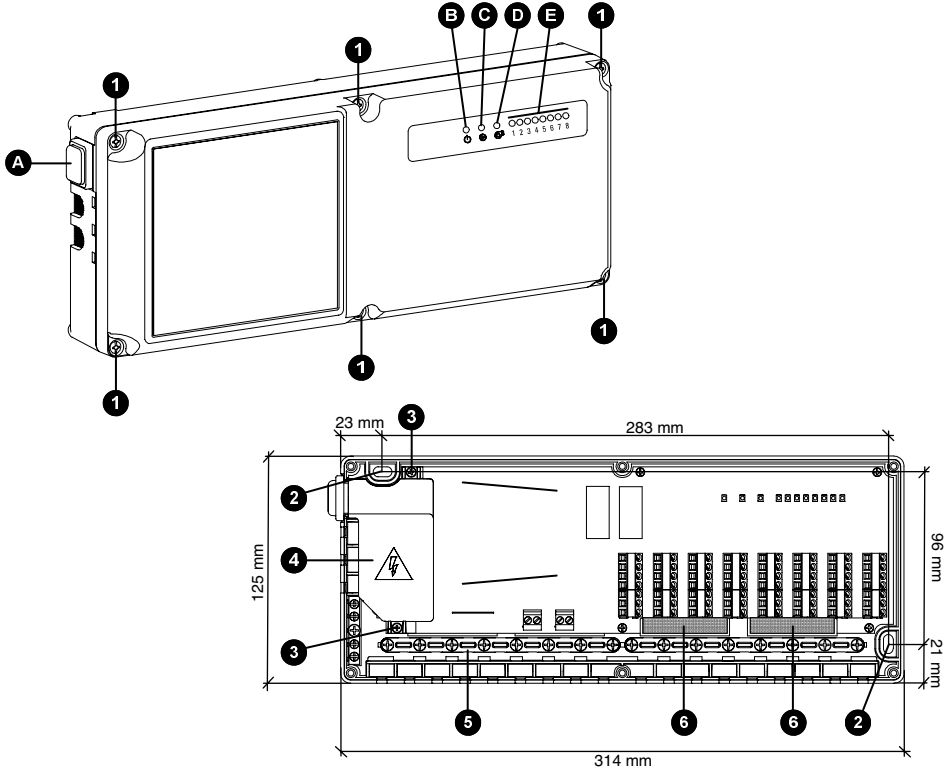

Fig. 1: Internal view and parts.
Green LED: power supply 'ϕ' (Ⓓ Fig. 1)
Red LED: pump output activation 'Ⓢ' (Ⓒ Fig. 1)
Red LED: boiler output activation 'Ⓛ' (Ⓓ Fig. 1)
Actuator outputs state LEDs '1 .. 8' (Ⓔ Fig. 1)
ON / OFF illuminated switch (Ⓐ Fig. 1)
The illuminated switch at the lower left hand side of the wiring centre will isolate the whole of the wiring centre except the parts under the plastic cover, item Ⓐ, Fig. 1, to allow access to thermostats and actuators for testing and fault finding during installation.
- Remove the 6 screws labelled as ❶ in Fig. 1 then remove the front plastic cover.
- Fix the device base to the wall by using the two screw holes labelled ❷ in Fig. 1.
- Remove the 2 screws labelled as ③ in Fig. 1 then remove the plastic cover labelled as ④ in Fig. 1.
With the help of a screwdriver, remove the plastic knock-outs from the base, see item ⑥, Fig. 1. Cables can then be taken through the backplate to the terminal connections.